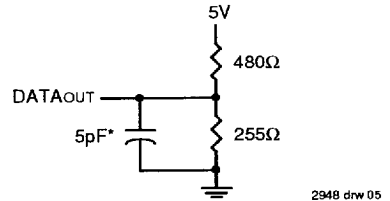

Figure 2. AC Test Load
- This parameter is guaranteed with the AC Load (Figure 2) by device characterization, but is not production tested